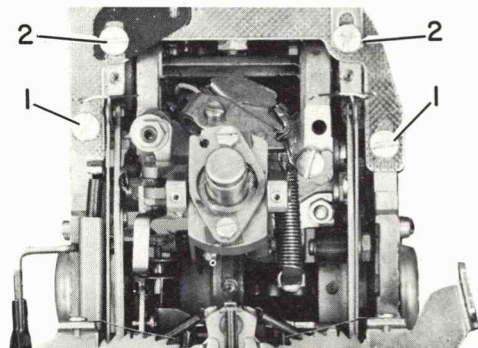

FIGURE 50. Carrier Shoe Removal
1. Remove the two card-holder screws (#1, Figure 50).
2. Remove the two escapement-bracket screws (#2, Figure 50).